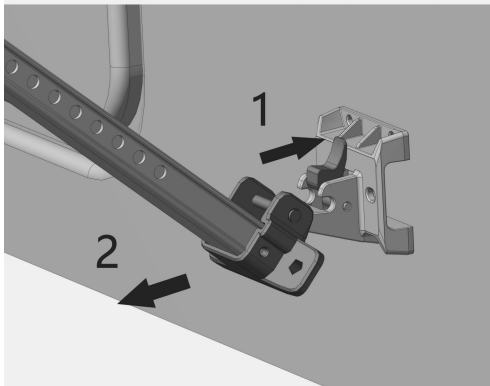

Figure D10
a. Release the bottom installation brackets latch, and place it vertically on the ground. (Figure D10)